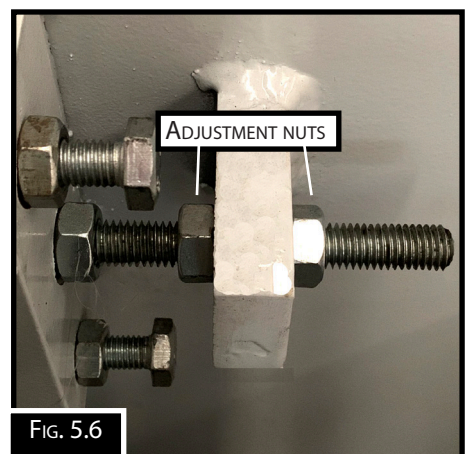

Fig. 5.6
4. Using a feeler gauge between the blades adjust the gap using the nuts on the centre stud inside the machine on either end of the side plates.(Fig. 5.6)